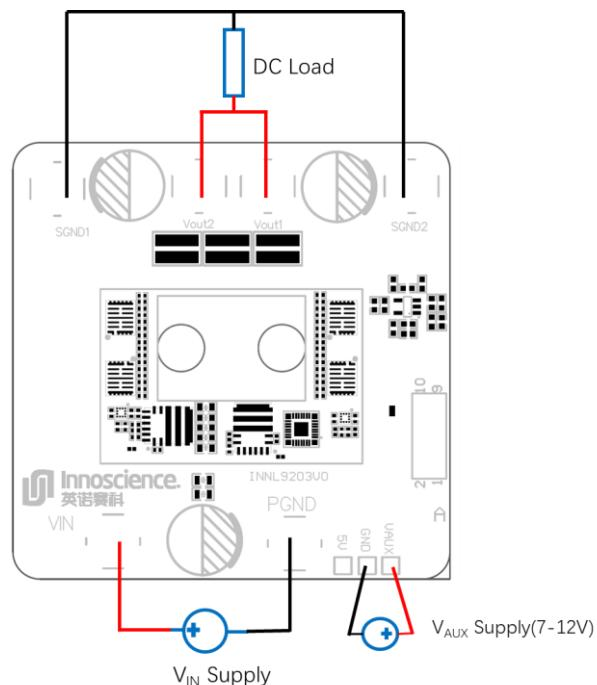

Figure 7 Proper Measurement Equipment Setup
The 1kW LLC demonstration board is easy to set up to evaluate the performance of ISG3201 100V SolidGaN and INN040FQ015A. Before the test, we need to get all the equipment prepared, which includes two DC sources, electronic load, digital multimeter, and digital oscilloscope with 1 GHz bandwidth. Refer to Figure7 and follow the procedure below for proper connection and measurement setup:
- a) With power off, connect the input power supply to V_{IN} to PGND as shown in Figure7.
- b) With power off, connect the auxiliary source power supply to V_{AUX} to GND as shown in Figure7.
- c) With power off, connect the load to V_{OUT} to SGND as shown in Figure7.